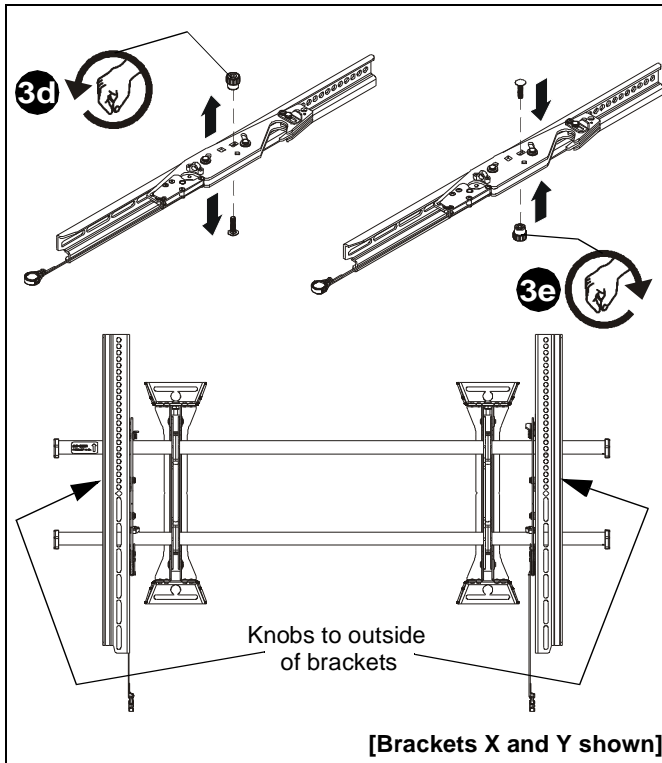

Figure 8
3. If necessary, the tilt interface bracket knobs may be switched to allow the interface brackets (X and Y) to be reversed. (See Figure 8)